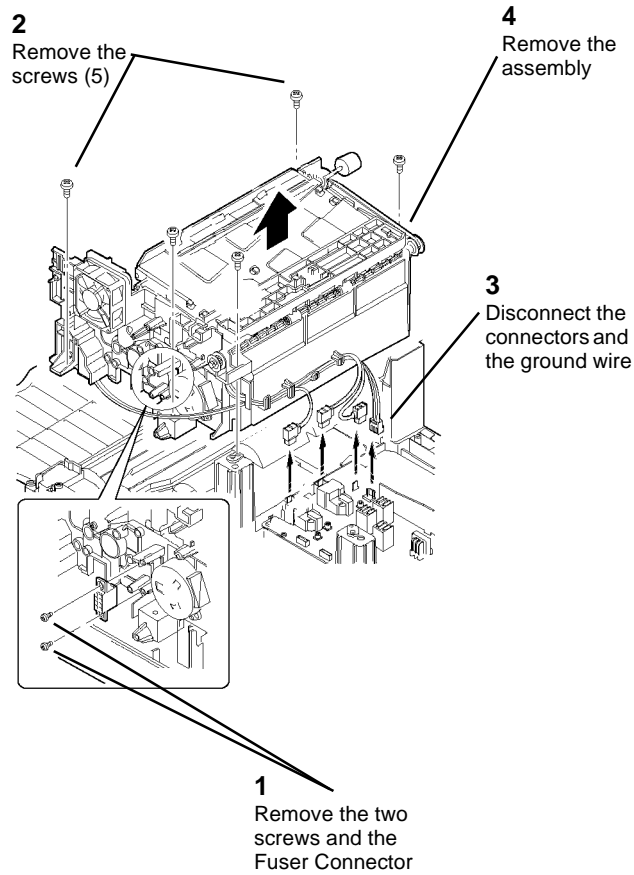

Figure 1 Removing the Intermediate Frame Assembly
2. (Figure 1): Remove the Intermediate Frame Assembly.